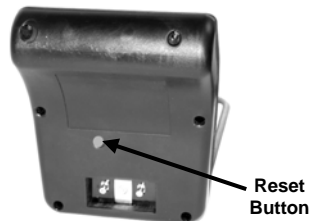

Fig. 6
- Push the thermostat reset button located on the back of the control panel with the back of a ball point pen. (Fig. 6) The unit will beep to indicate that it has reset.